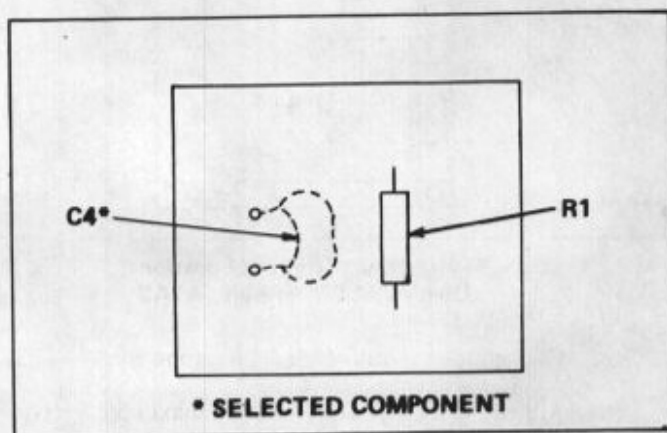

Figure 2-29. Trimmer Location, Amplitude Modulator Assembly, A27
2.5.34 Amplitude Modulation Adjustment (See Figure 2-29)